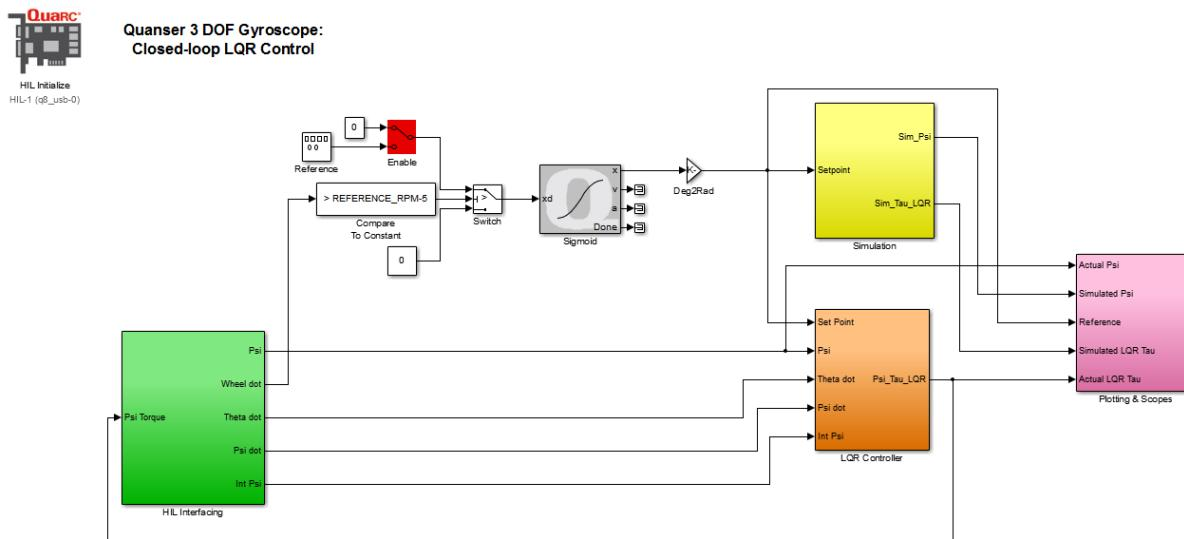

Figure 3.3: Simulink model used to run controller on the 3 DOF Gyroscope.
The q_3dgyro_lqr Simulink diagram shown in Figure 3.3 is used to perform the red gimbal position control on the 3 DOF Gyroscope. The *HIL Interfacing* subsystem contains drivers that interface with the DC motor and sensors of the 3 DOF Gyroscope system.
3. Open the `q_3dgyro_lqr.mdl` Simulink diagram, shown in Figure 3.3.